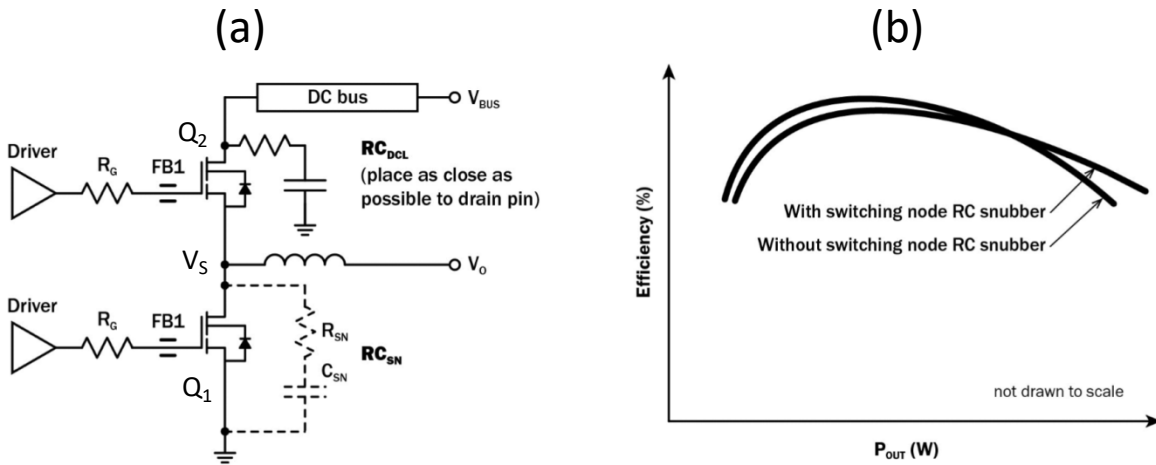
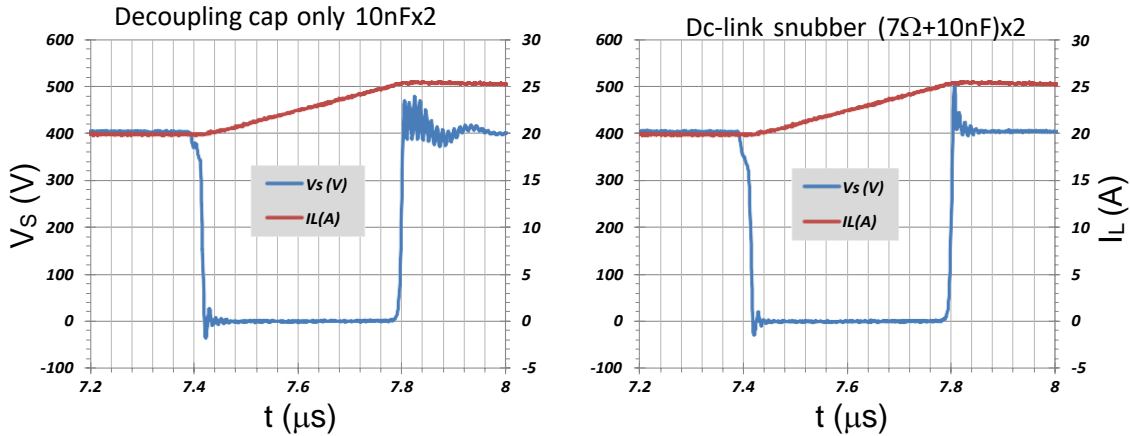
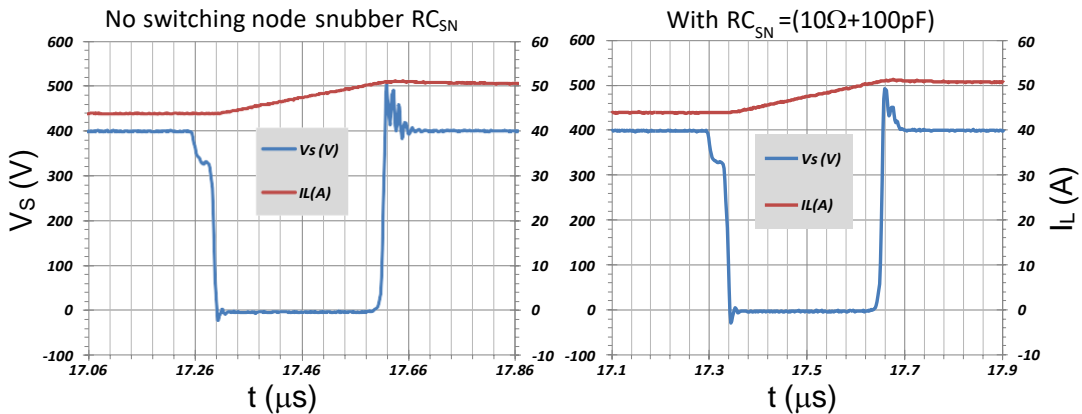

Figure 1. a) Half-bridge switching circuit and b) Efficiency vs. output power
Figure 2. Half-bridge inductive switching waveforms with decoupling capacitor only and with DC-link snubber ( $RC_{DCL}$ ) (Devices: TP65H050WS)
Figure 3. Effect of switching node snubber  $RC_{SN}$  on half-bridge inductive switching waveforms (Devices: TP65H035WS).
To avoid sustained oscillation, it is important to minimize noise generation, to minimize noise feedback, and to damp the ringing energy resulting from the high current/voltage transients. This can be achieved with the recommendations outlined below using a half-bridge switching circuit in Figure 1 as an example.
2) Use a gate ferrite bead [FB1 in Figure 1(a)] to prevent the high-frequency noise from entering the driver and logic circuits. This bead should be mounted close to the Gate lead of the device. NOTE: This is required even for single-ended non-half-bridge designs. The specification of the recommended gate ferrite beads are listed in Transphorm’s GaN FET datasheets and also summarized in Table 2. The TO247 package includes a built-in gate ferrite bead for our Gen III devices but has been moved to the outside for our latest Gen IV (G4) devices. Please refer to page three of the datasheet to verify its position.
3) Use a DC-link RC snubber [ $RC_{DCL}$  in Figure 1(a)]. The DC rail or DC-link, when decoupled with a low-ESR fast capacitor, can be considered a high-Q C-L network at high frequencies (with "L" being the feed inductance of the DC bus). This can interact with the devices at voltage/current transients and lead to ringing. Adding an RC snubber across the DC-link close to the drain pin of the high-side device can effectively absorb the ringing energy, suppressing potential oscillation. This effect is shown in Figure 2 where the high-frequency ringing at 25 A turn-off is substantially damped with the  $RC_{DCL}$ . Since this snubber is not inserted at the switching node, it does not add switching loss to the circuit. NOTE: This is recommended even for single-ended non-half-bridge designs. The practical values of the  $RC_{DCL}$  can be 2 sets of 6-10 $\Omega$ /0.5W SMD resistors in series with a 10nF/600-1000V ceramic SMD cap. or 1 set of 3-4 $\Omega$ /1W resistors in series with a 10-20nF/600-1000V cap if space is limited.
4) Adding a switching-node RC snubber [ $RC_{SN}$  in Figure 1(a)] can further reduce high-frequency ringing and help control di/dt transients at high operation currents. The effect of the  $RC_{SN}$  on switching waveform at a switching current >50 A is shown in Figure 3. Unlike the  $RC_{DCL}$ , the capacitance of the  $RC_{SN}$  does increase switching loss. The recommended snubber parameters with little degradation in efficiency are given in the datasheet and are summarized in Table 2 for both single  $R_G$  and dual  $R_{G(ON)}/R_{G(OFF)}$  use.
Note that the reverse diode switching current limits were obtained with the recommended circuit parameters [Figure 1(a) and Table 2]. The gate resistor(s) are important to control the  $di/dt$  and the addition of a switching node snubber  $RC_{SN}$  offers further improvements when operation current is high. The effect of  $RC_{SN}$  is shown in Figure 1(b): a slight reduction in low-load efficiency, but a significant enhancement at high load. In applications with  $R_G$  is equal to or higher than the recommended value, the  $RC_{SN}$  can be omitted. In all situations, care has to be taken to ensure junction temperature of the devices do not exceeding maximum rating.